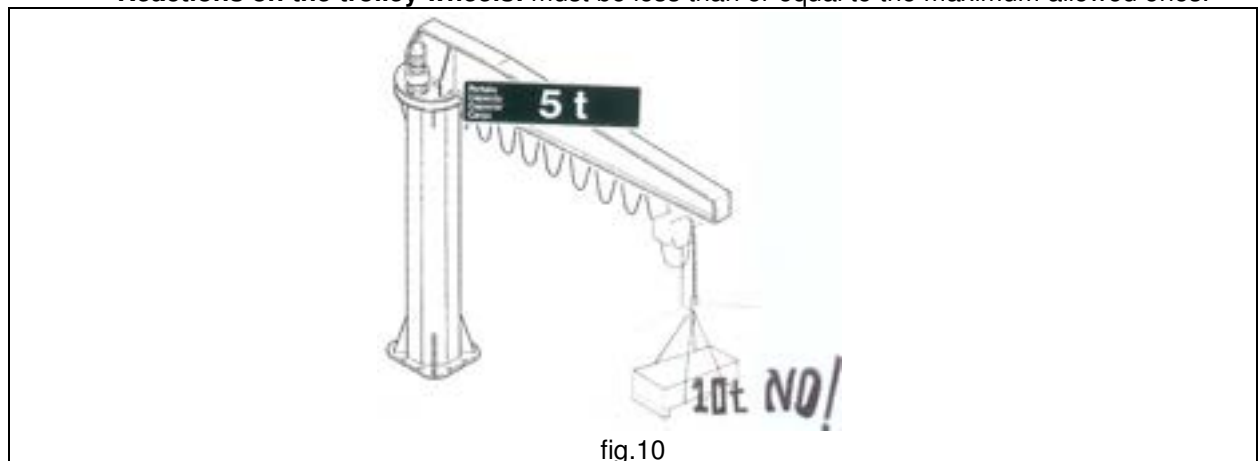

fig.10
3. The characteristics of the lifting unit (trolley/hoist), if not part of the supply, are compatible with those of the jib crane (see point 2.2.6) in relation to: (fig.10)